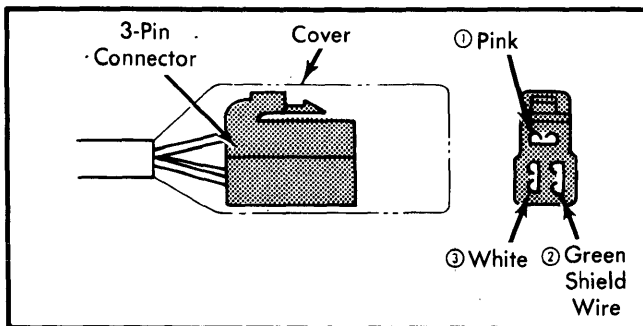

Fig. 5 Conducting Tests at Distributor Connector (Subaru Shown)
8) Turn ignition switch off. Disconnect 2-pin (Toyota) or 3-pin (Subaru) distributor connector. Disconnect high tension wire at distributor and hold it 1/4" from engine block. Turn ignition switch on. Check if spark jumps when a small voltage (1-6 volts) is applied intermittently on terminals "1" (pink wire) and "3" (white wire) on ignitor side of connector. See Fig. 5.